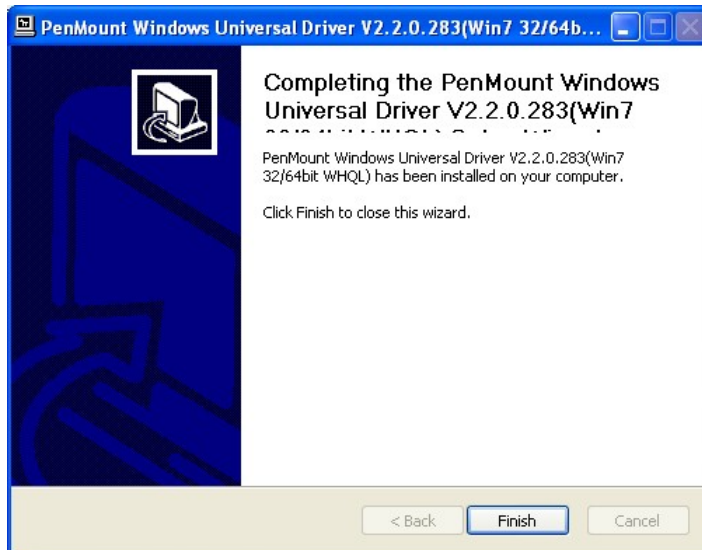

Figure 5-5: Finish Installation
Step 11: When the installation is complete, the complete screen appears. See **Figure 5-5**.